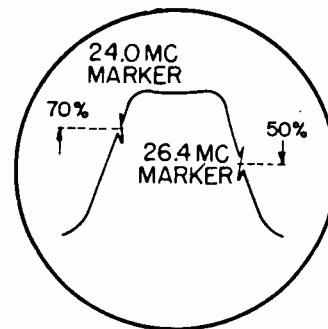

FIGURE 9 - OVERALL IF RESPONSE
11. Observe IF response curve and, if necessary, adjust Video IF transformer cores slightly to obtain the response curve shown in Figure 9. Use low signal input and high enough scope gain so that the IF amplifier does not overload, resulting in distortion of the IF response curve.